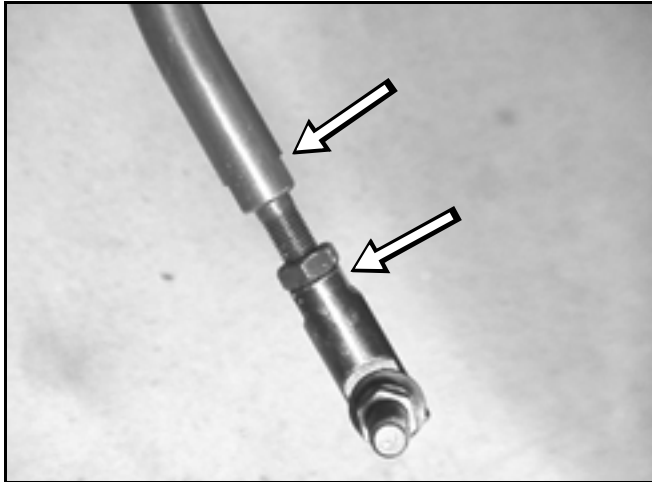

Figure 9
3. Hold the flats on the ball joint to align with the flats on the tie rod and tighten the jam nut (Figure 9).